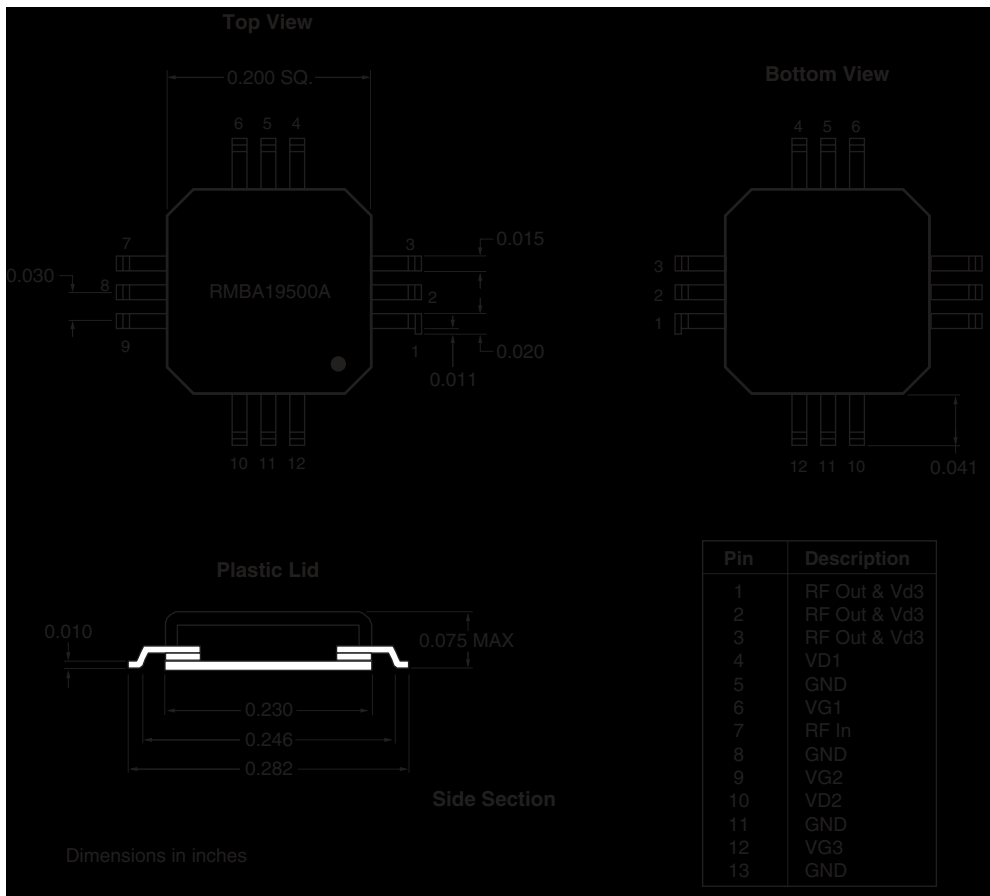
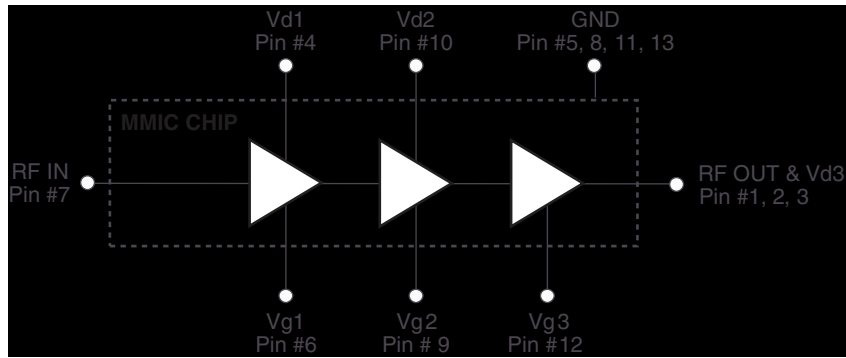
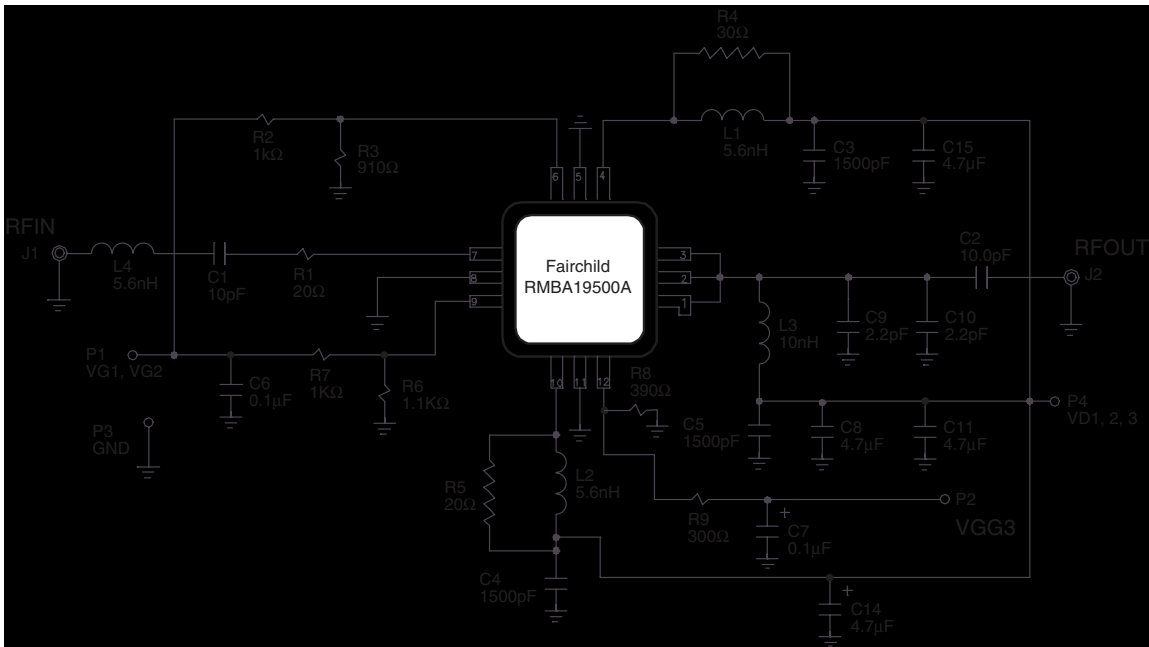
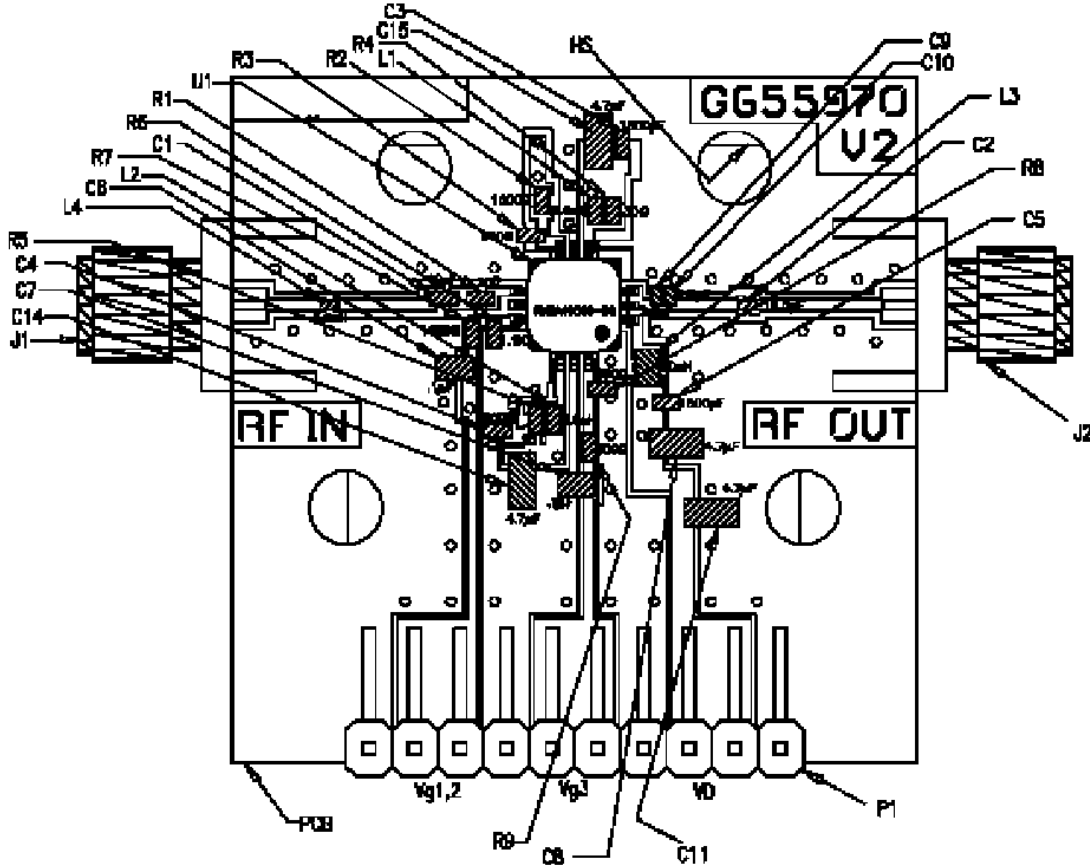

Figure 1. Package Outline and Pin Designations
Figure 2. Functional Block Diagram
Figure 3. Schematic of Application Circuit Showing External Components
Figure 4. Layout of Test Evaluation Board (RMBA19500A-TB, G655971)
The device requires external input and output matching to 50 $\Omega$  as shown in Figure 3 and the Parts List.
The following describes a procedure for evaluating the RMBA19500A, a monolithic high efficiency power amplifier, in a surface mount package, designed for use as a driver stage for PCS1900 Base station or as the final output stage for Micro- and Pico-Cell base stations. Figure 1 shows the package outline and the pin designations. Figure 2 shows the functional block diagram of the packaged product. The RMBA19500A requires external passive components for DC bias and RF input and output matching circuits as shown in Figure 3 and the Parts List. A recommended schematic circuit is shown in Figure 3. The gate biases for the three stages of the amplifier may be set by simple resistive voltage dividers. Figure 4 shows a typical layout of an evaluation board, corresponding to the schematic circuits of Figure 3. The following designations should be noted:
- (1) Pin designations are as shown in Figure 2.
- (2) Vg1, Vg2, and Vg3 are the Gate Voltages (negative) applied at the pins of the package.
- (3) Vgg1, 2, and Vgg3 are the negative supply voltages at the evaluation board terminals (Vg1 and Vg2 are tied together).
- (4) Vd1, Vd2, and Vd3 are the Drain Voltages (positive) applied at the pins of the package.
- (5) Vdd is the positive supply voltage at the evaluation board terminal (Vd1, Vd2, and Vd3 are tied together).